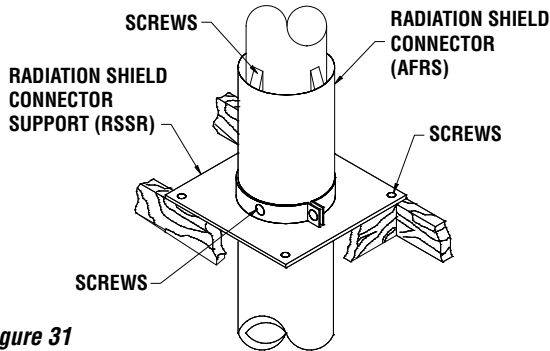

Figure 31
- At the ceiling level from the top, install a Radiation Shield Connector (SRS) and a Radiation Shield Support (RSSR). (see Figure 31).